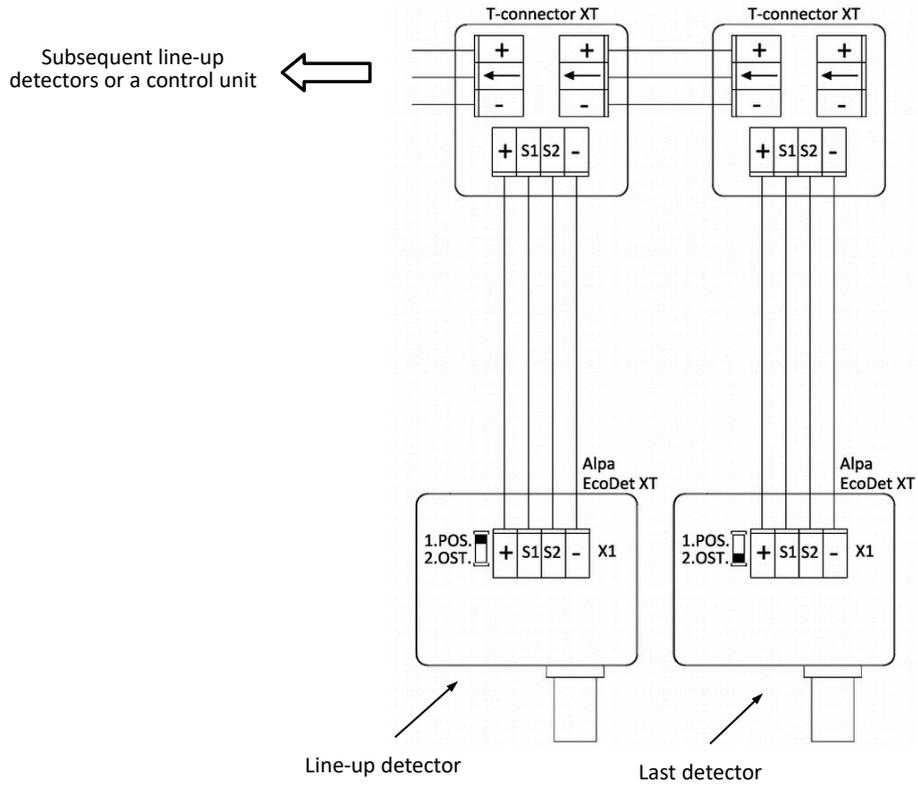

Figure 8: Settings of the configuration switch
- Set configuration switches for all line-up detectors to the 'POS' position (No. 1). The configuration switch of the last (the most distant) switch must be set to the 'OST' position (No. 2) – see Figure 8). The control unit should report the status of OPERATION (PRACA) for the entire bus structure.
-  configuration switches for all gas detectors included into the communication loop are set to the 'POS' (No. 1) position (the control unit is deemed to be the last detector within the loop) – see Figure 8,